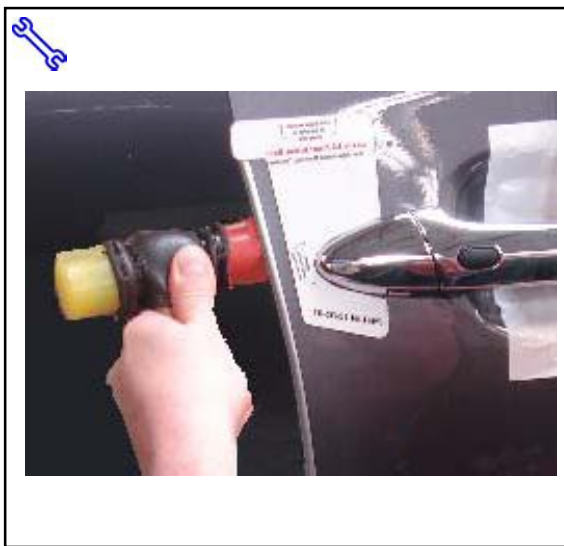

Fig. 1-14
- (n) While holding DEG in proper alignment with one hand, use **soft side of the rubber mallet** to begin tapping the channel onto the door edge starting three (3") inches below the top of the DEG, working your way to the top of the DEG. (Fig 1-14) Ensure top of DEG is fully engaged on the door edge before proceeding to next step.